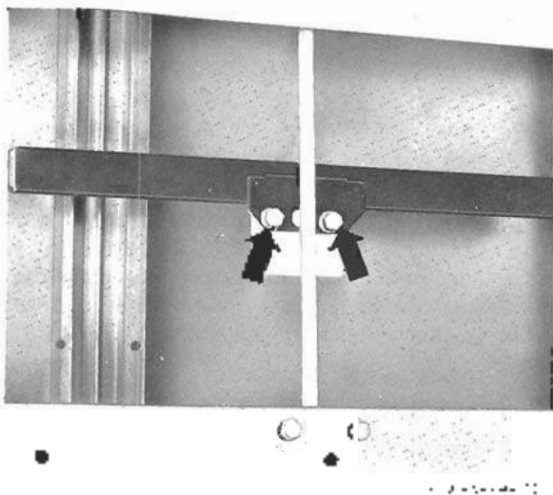

Fig. 5-20 Bolts that hold the window lifter cable bracket to the window lifter channel
4. Lower the window. Then remove the two bolts indicated in Fig 5-20 and disconnect the window lifter cable bracket from the window lifter channel.